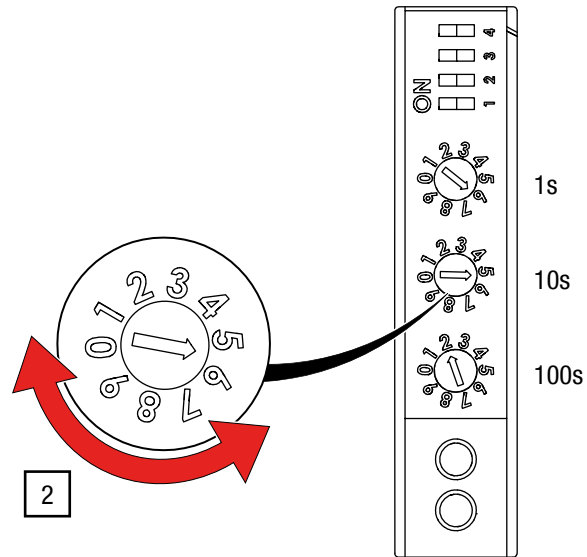

Fig. 26: Rotary switch for setting the DMX address on the G-FRAME control unit
2. Using a screwdriver change the settings on the rotary switches (1, 10 and 100 digits) to the desired digit (see Fig. 26).
In the example in Fig. 26 the DMX address 256 is set as an example. The slide switches 1-4 (“dipswitches”) remain switched off.